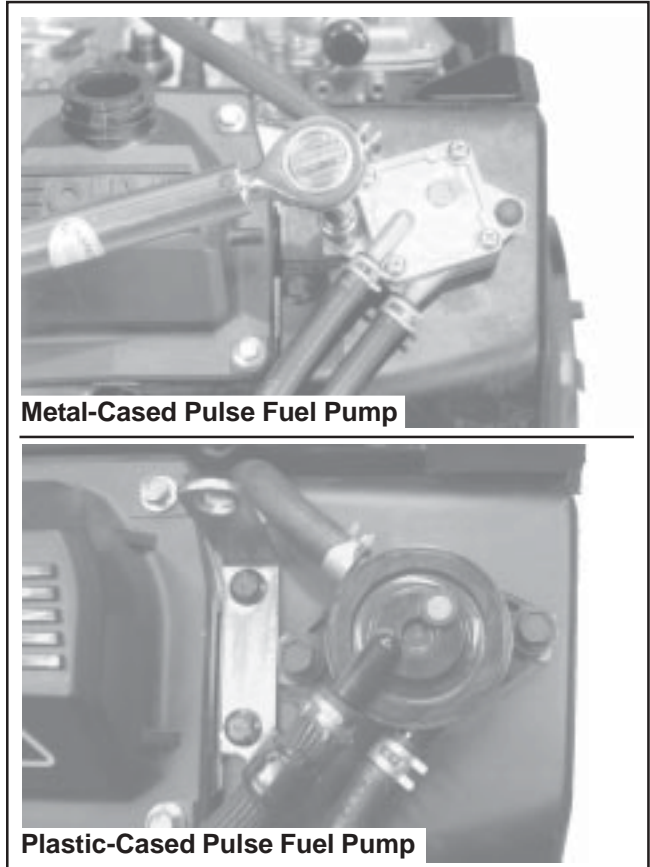

Figure 11-75. Reinstalled Fuel Pump.
**NOTE:** Pulse style fuel pumps may be made of metal or plastic. See Figure 11-75. If a new fuel pump is being installed, make sure the orientation of the new pump is consistent with the removed pump. Internal damage may occur if installed incorrectly.